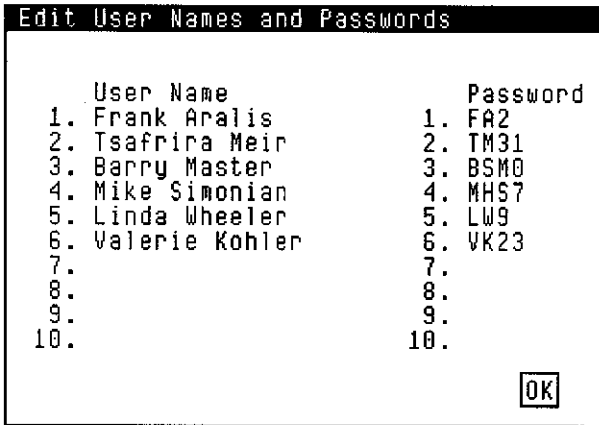

**Figure 2-4.**
1. Click on **<Protection>** from the Configuration window. The Protection Configuration window, Figure 2-4, is displayed.